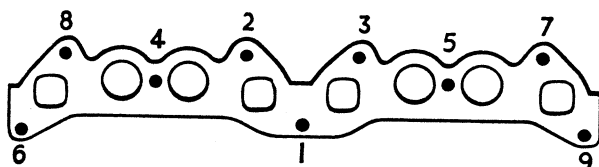

FIG. 113.
1. After checking that thermostat is still in position, refit water outlet elbow (32) with new gasket, securing top hose with clip. Tighten set screws and reconnect tie-rod (33). Replace bypass pipe (21).
2. Replace inlet manifold studs and refit exhaust manifold (36). Tighten nuts in order suggested in Fig. 113.